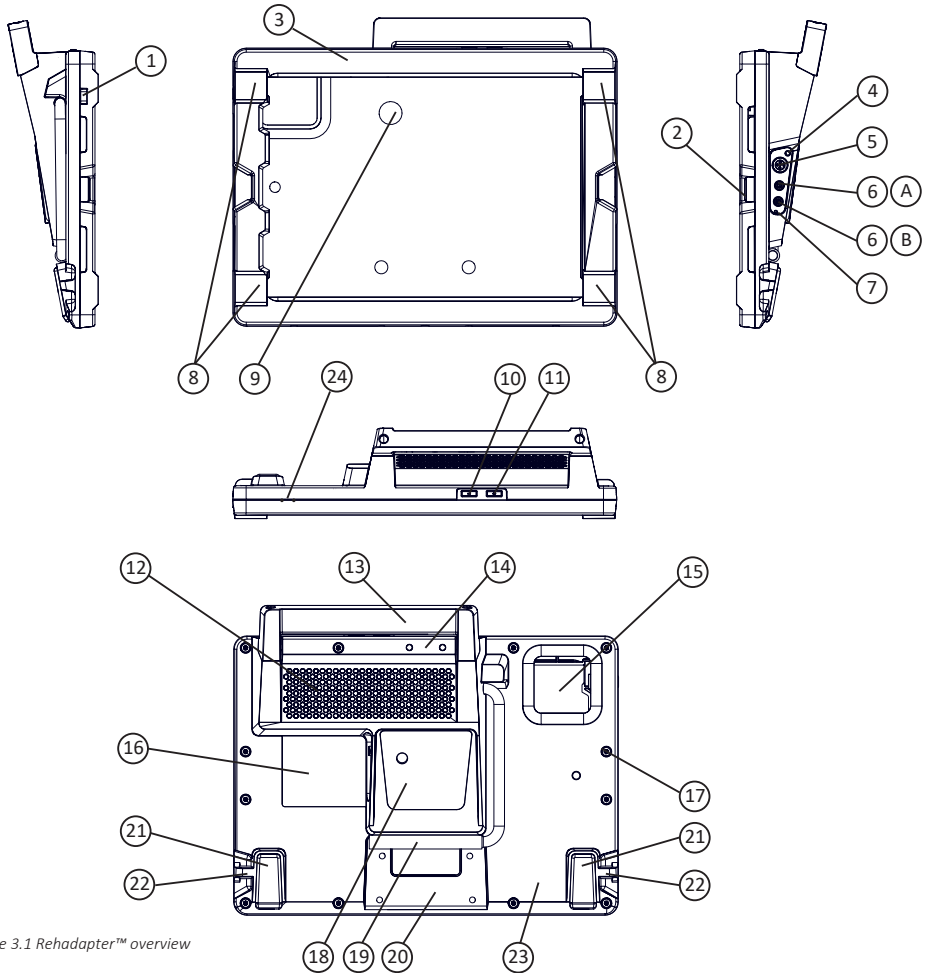

Figure 3.1 Rehadapter™ overview
To turn on the Rehadapter™, press and hold the volume up button ⑪ for 3 seconds (*Fig. 3.1 Rehadapter™ Overview*).
To adjust the volume, press the respective volume button ⑪/⑫ on the top side of the Rehadapter™ (*Fig. 3.1 Rehadapter™ Overview*).
Use only the included power adapter and charging cable. The magnetic charging port ⑤ is on the backside of the Rehadapter™ (*Fig. 3.1 Rehadapter™ Overview*).
1. Connect the charging cable to the magnetic charging port ⑤ of the Rehadapter™ and to the power adapter. The magnetic plug adjusts itself to the port by slightly rotating it.
3. Charge the Rehadapter™ until the battery is fully charged. When the battery is fully charged, the status indicator LED ④ will be solid blue.
You can connect up to two switches to the Rehadapter™, which are attached to the 3.5 mm ports ⑥ (A) and ⑥ (B) on the back casing (**Fig. 3.1 Rehadapter™ Overview**).